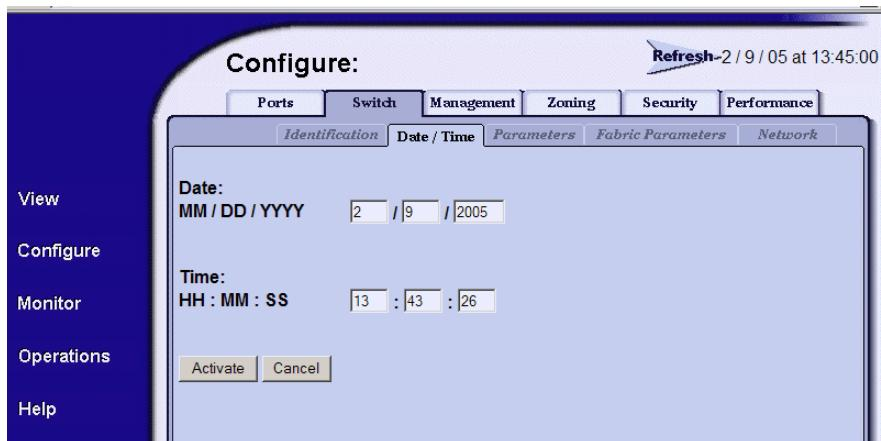

Figure 44 Switch page—Date/Time tab
- At the Configure window, click the **Switch** tab, then select the **Date/Time** tab. The Switch page is displayed with Date/Time tab selected (highlighted red) (Figure 44).